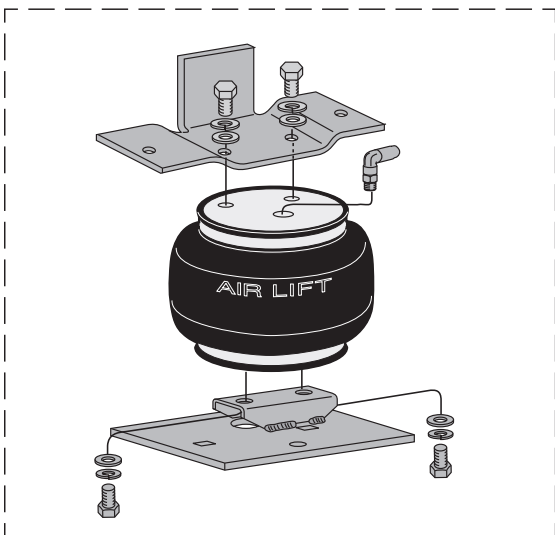

fig. 1
6. Set a roll plate (E) on both ends of the double convolute air spring (Fig. 1). **Kit 57128 with the single convolute air spring does not require roll plates.**
8. Attach the lower bracket to the air spring using two bolts (H), two lock washers (I), and two flat washers (J) (Fig. 1).
9. Attach the upper bracket (B) to the air spring using two bolts (H), two lock washers (I), and two flat washers (J). Be sure that the tall vertical leg of the upper bracket is opposite of the air fitting port (Fig. 1).